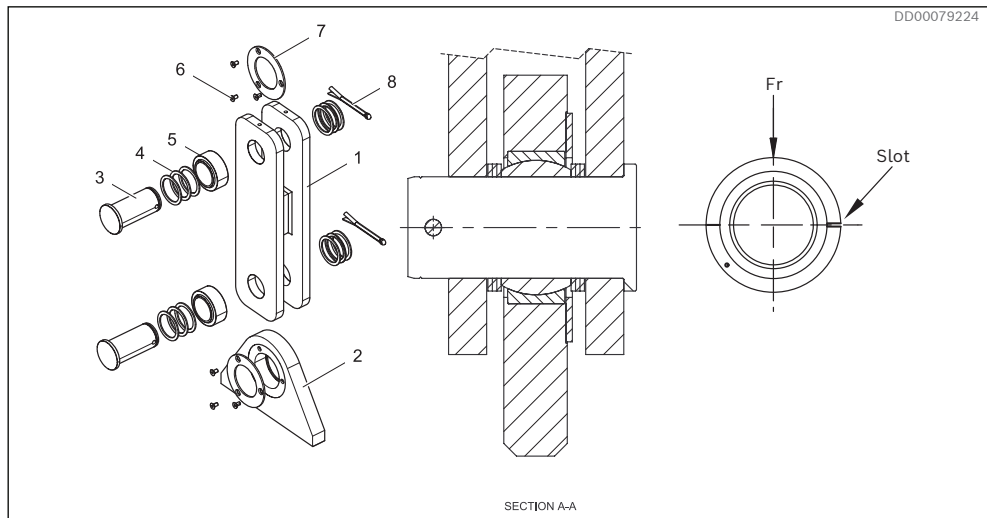
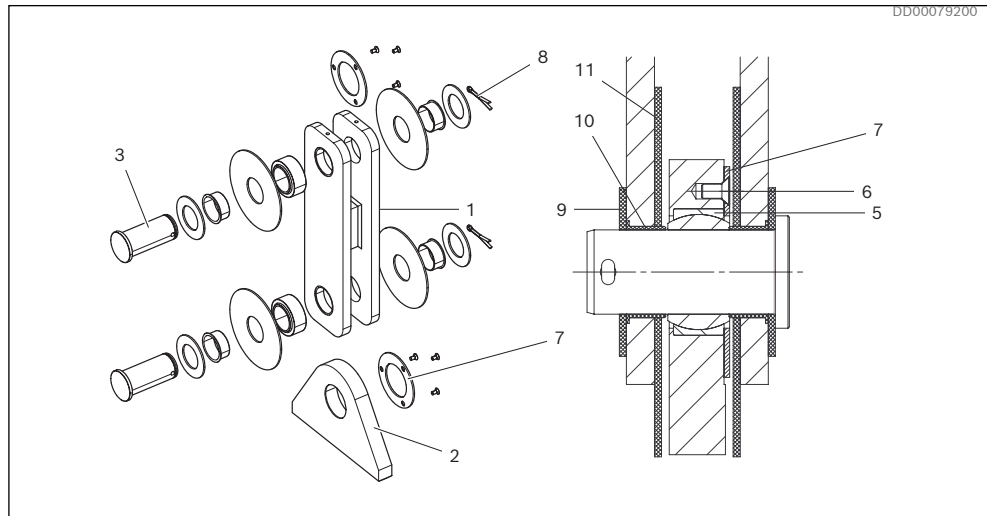
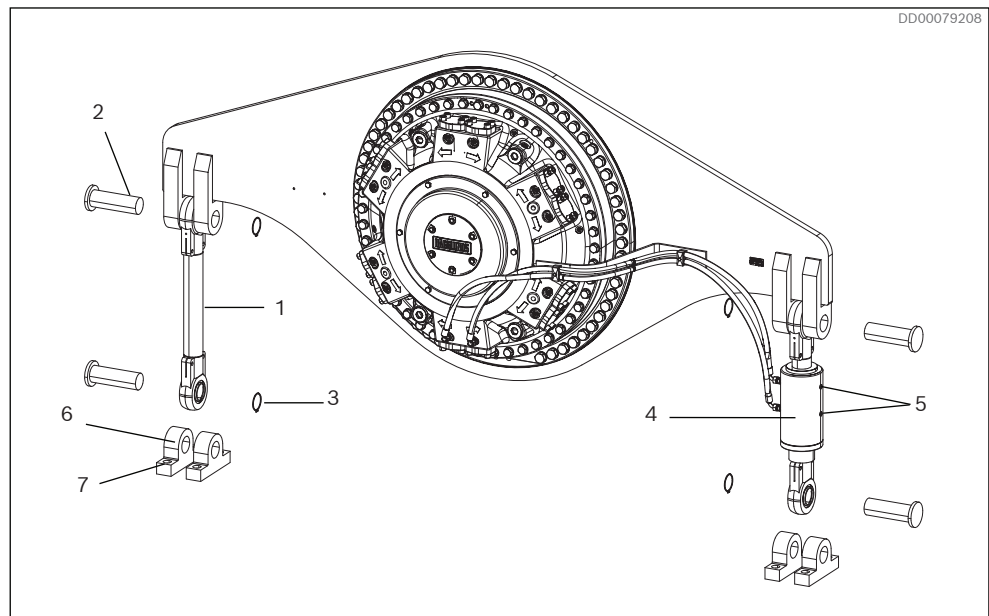
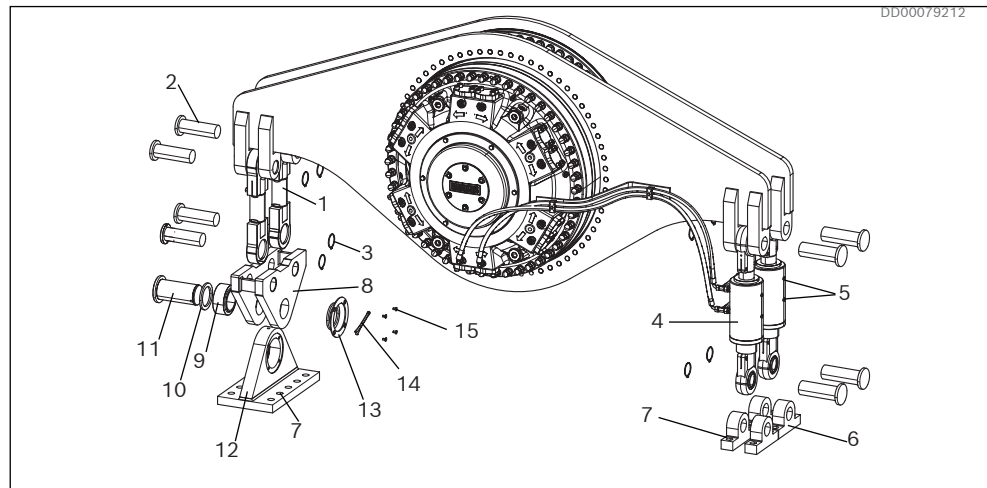

Fig. 26: Articulated connection TC A
Fig. 27: Electrical isolated articulated connection TC A
Fig. 34: Articulated connection and hydraulic cylinder for DTCBM 1600 to DTCBM 4000
Fig. 37: Articulated connection and hydraulic cylinder DTCBM 4600 to DTCBM 6000
- 2 The spherical plain bearing must be dismantled during welding. See Fig. 26 and Fig. 27 and the articulated connection must be disconnected.
1. The bearing shall be mounted so that the slot in the outer ring is perpendicular towards the load direction. See Fig. 26 (also valid for Fig. 27)
2. The bearing (5) shall be mounted by using a mounting sleeve or tube applied on the bearing outer ring.
3. Mount the screws (6) with a tightening torque 47 Nm [34,.67lb ft]
4. Assemble the rest of the components according to Fig. 26 and Fig. 27
1. Mount the articulated rod on the left side of the torque arm (viewed from the motor main connection side), use the pins (2) and lock them in place with circlips (3).
2. Mount the hydraulic cylinder with the piston rod facing upwards on the right side of the torque arm (viewed from the motor main connection side), use the pins (2) and lock them in place with circlips (3). Turn the cylinder so the hydraulic connections A, B & C are facing the motor.
4. The spherical plain bearing (9) shall be mounted with the slot in the outer ring perpendicular towards the load direction. See *Fig. 26*
5. The spherical plain bearing (9) shall be mounted by using a mounting sleeve or tube applied on the bearing outer ring.
6. Mount the screws (15) with a tightening torque 47 Nm [34,.67lb ft]
7. Assemble the rest of the components according to *Fig. 37*
8. Attachments (6), (12) for torque arm shall be fastened with screws (7).
The cylinders should be vented from air during commissioning by using the air bleeding screws on the cylinder, see Fig. 34 and Fig. 37